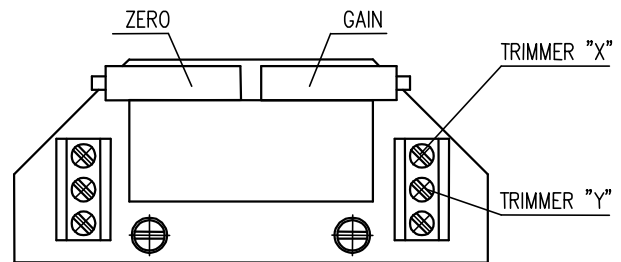

Fig. 6
#### 4.4.2 EPV – 3-wire version (Fig. 6, 6a)
- Adjust the resistive transmitter according to the previous chapter. The resistance is to be metered on the terminals **X-Y**, resp. **0%-100%** (Fig. 6, 6a). The used transmitter resistance is **2000 W** or **100 W**.